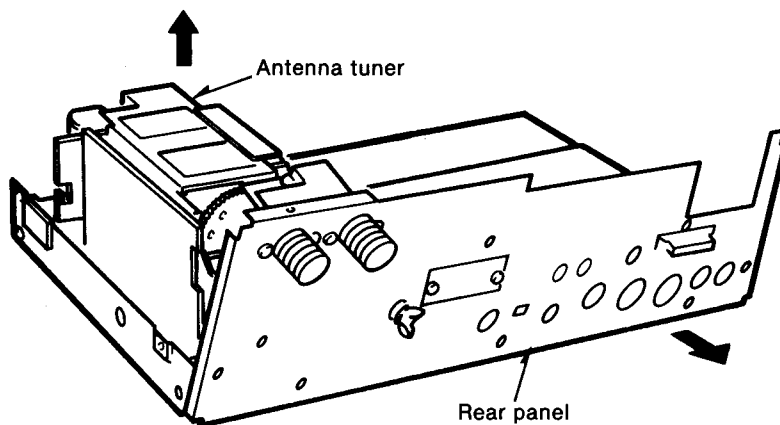

Fig. 5
3. Shift the rear panel backward and remove the antenna tuner as shown in Fig. 5.